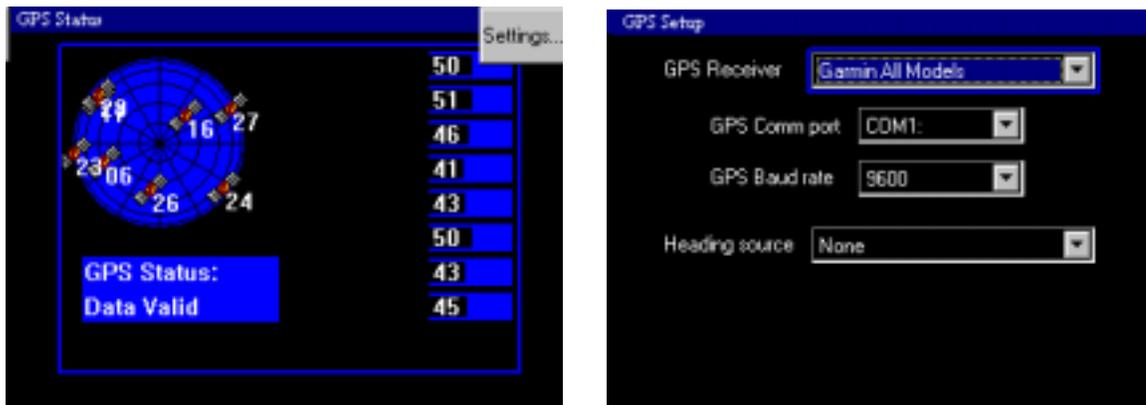

FIGURE 11: GPS Status and Setup Pages (RS-232)
2. The GPS STATUS page appears (Figure 11).
Note: Certain GPS's such as KLN-90 series do not provide specific satellite data and this screen (Figure 11) will be blank.